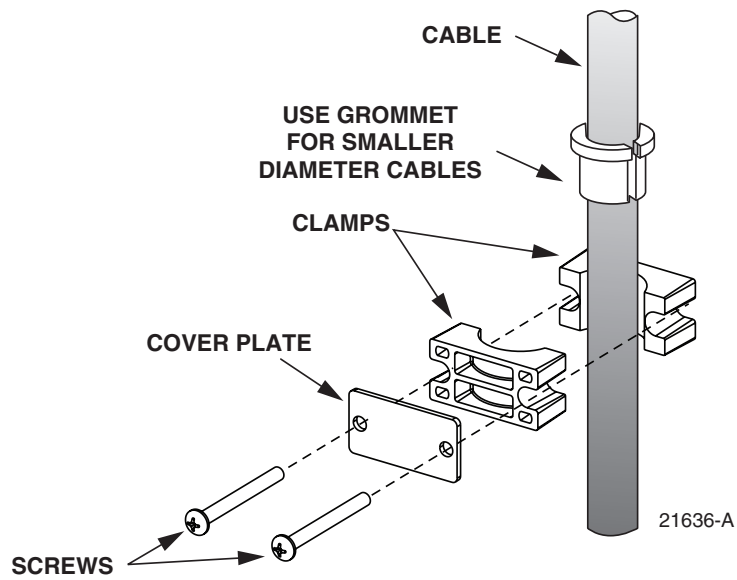

Figure 24. Cable Clamp Assembly
- 14.7 Assemble the cable clamp (and grommet if required) on the cable as shown in Figure 24 and secure the cable to the lower part of the cable clamp bracket.